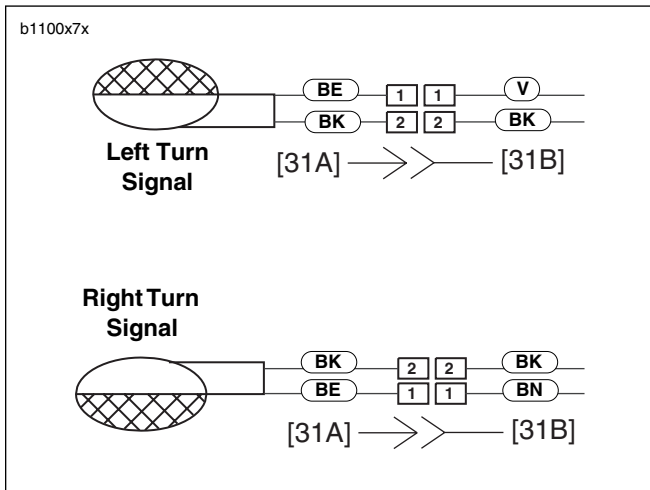

Figure 7-57. Front Turn Signal Connections
- Attach bullet connectors on turn signal wires as shown in Figure 7-57.
- See Figure 7-57. Insert bullet connectors through license plate bracket.